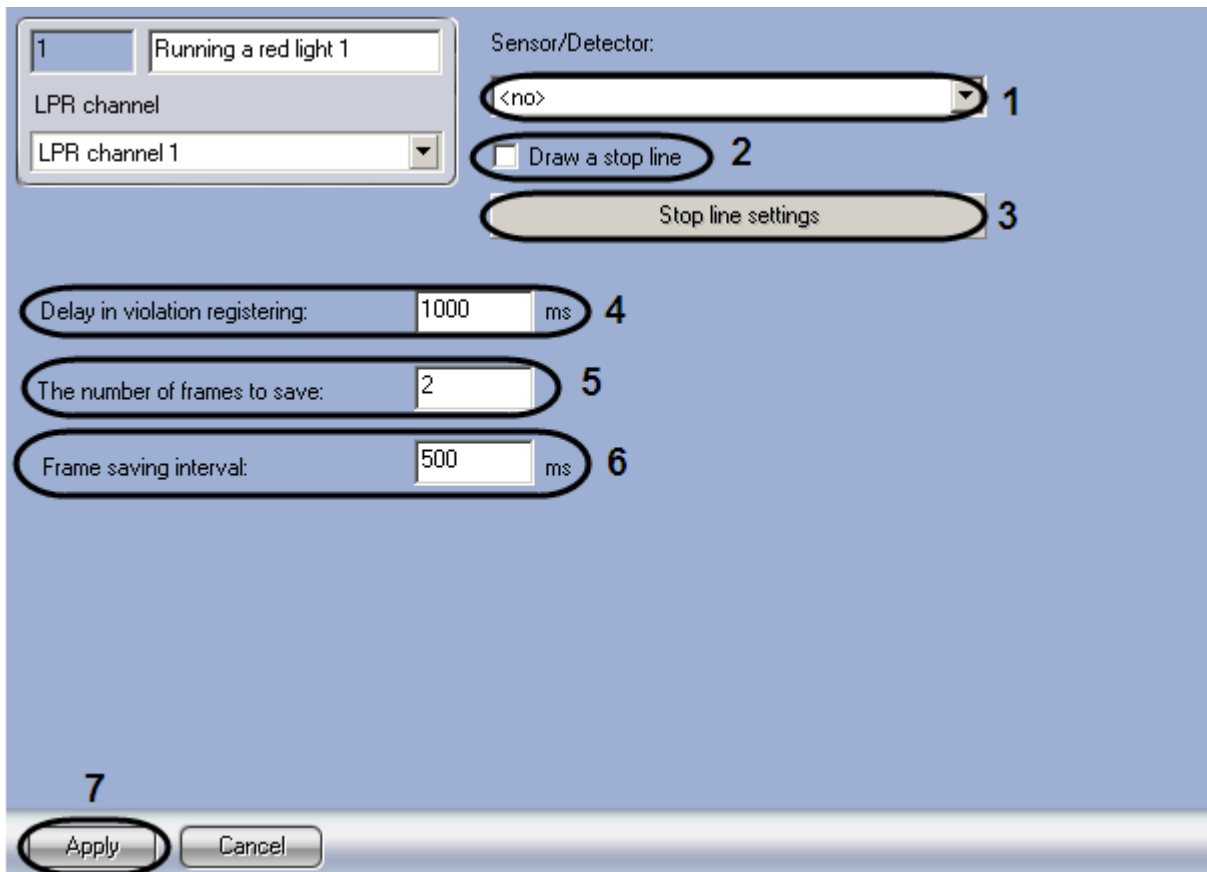

Fig. 7.2-30 Setting up the red light passing module
1. Go to Red light passing setting tab (see Fig. 7.2-30).
2. In «Sensor/Detector» dropdown list select «Sensor» object (see Intellect software package: Administrator's guide) by signal of which the light of traffic light is detected (see Fig. 7.2-30, 1).
3. Set the «Draw a stop line» checkbox if it's necessary to overlay a stop line before the traffic light (see Fig. 7.2-30, 2).
- 4.1. Click «Stop line settings» (see Fig. 7.2-30, 3). The window of the same name opens (see Fig. 7.2-31).
5. Enter time (in milliseconds) that determines the time interval between vehicle red light passing fixation and alarm signal in the «Delay in violation registering» field (see Fig. 7.2-30, 4).
6. Enter the number of frames that will be saved in database in the «The number of frames to save» field (see Fig. 7.2-30, 5).
7. Enter time (in milliseconds) that determines the time interval of frames for saving in the «Frame saving interval» field (see Fig. 7.2-30, 6).
8. To save the changings click Apply (see Fig. 7.2-30, 7).